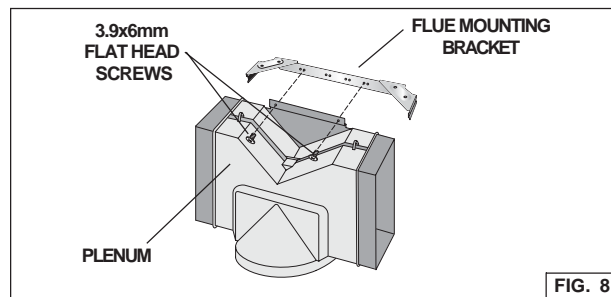

FIG. 8
2. Secure the plenum to the flue mounting bracket with (2) 3.9x6mm flat head screws (the screws are supplied with the Non-Ducted Recirculation Kit "DFKTWC75GS"). Fig. 8.